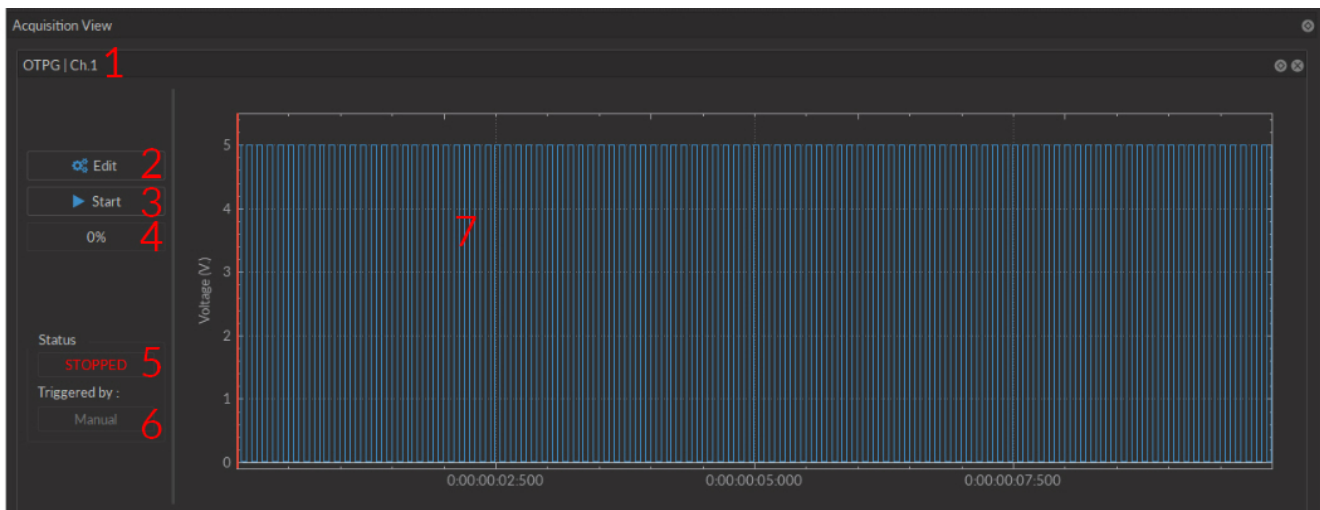
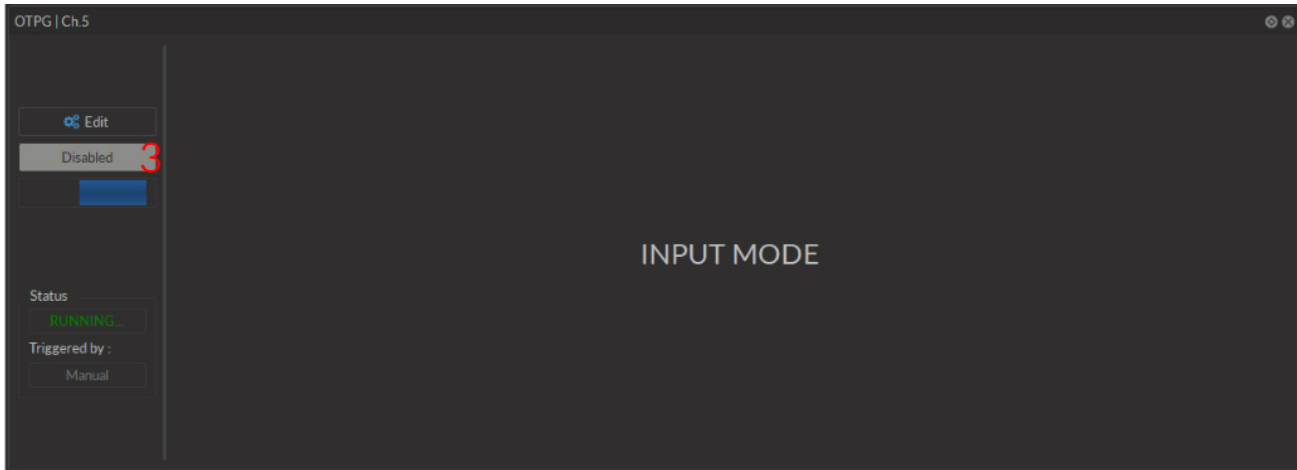
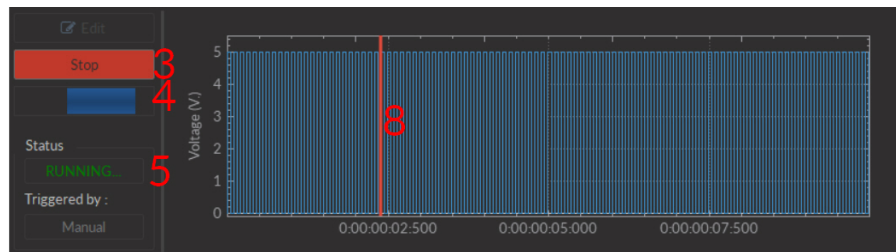

Figure 3.68: Acquisition View Box
Figure 3.69: Acquisition View Box, Input Mode
Figure 3.70: Acquisition View Box, Square Mode
1. The **Channel name** is located on the upper left of the **Channel box** (Fig. 3.68), identifying the type of channel and its number, corresponding to that on the OTPG.
2. The **Edit** button (Fig. 3.68) allows the editing of channel parameters, opening the **Channel configuration** window. For further information, see section 3.6.1.
3. The **Start** button (Fig. 3.68) activates the chosen channel without activating any other channel. The button is **Green** (Fig. 3.68 when inactive, **Red** (Fig. 3.70) when active and **Gray** (Fig. 3.69) when disabled.
4. The **Progress Bar** (Fig. 3.68) will indicate the progress of the chosen sequence. Should the sequence be infinite, a scrolling blue bar (Fig. 3.70) is displayed.
5. The **Status** box (Fig. 3.68) shows whether the channel is active, displaying **STOPPED** when inactive (Fig. 3.68) and **RUNNING...** (Fig. 3.70) when active.
6. The **Triggered By** box (Fig. 3.68) shows the current trigger source of the channel sequence.
7. The **Sequence Preview** box (Fig. 3.68) shows a graphed preview of the pulse sequence.
8. The **Position Marker** (Fig. 3.69) is a red line on the **Sequence Preview** that indicates the position in time when the sequence is active.